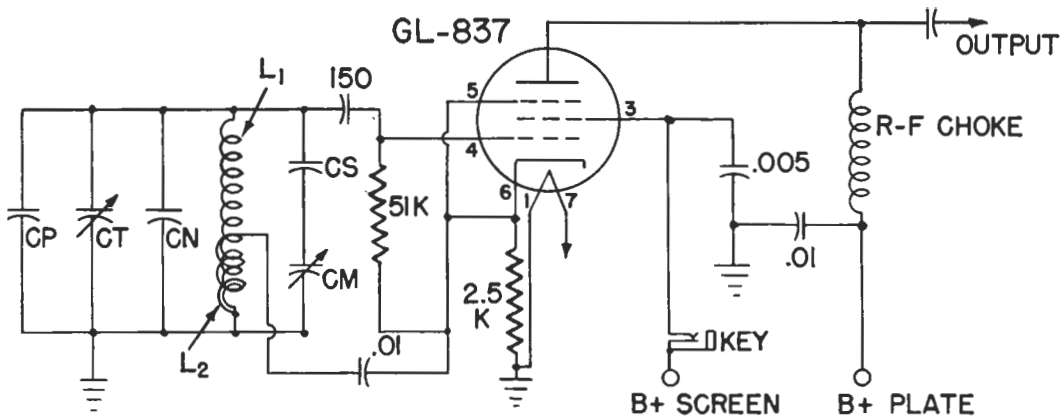

Fig. 2. Circuit Diagram of One-band ECO
Many types of oscillators can be used to generate a radio-frequency signal, and most of these types (ECO, Hartley, tuned-plate grid tickler, tuned-plate tuned grid and negative transconductance) have been used in VFO design. All of them, properly applied, will give a satisfactory VFO. The ECO was chosen because it fits in with more of the requirements which were subsequently found necessary. The schematic diagram, Fig. 2, gives the basic circuit for the electron-coupled oscillator to be used in the Five-band VFO.
Let us assume that you want to calculate the necessary L and C for the circuit in Fig. 2 for a given band—say 1750 to 2000 kilocycles. First, you must select a value of total capacitance (CP+CT+CN+CM+stray). This is not difficult, and as a starter you should use 500–1000 mmf for 160, 80 and 40 meters, and 300–600 mmf for 20 meters. Call it 500 mmf in this case. The next step is to find the capacitance variation necessary to tune across the band. The formula for this is:
It is possible to take the circuit in Fig. 2 and add a tuning condenser and coil in the plate circuit (instead of the r-f choke shown). The coil would be resonant at the frequency generated by the grid circuit. The tuning condenser would allow us to peak the plate circuit, and thus we would be able to drive any other tube desired. This system would work perfectly if our mechanical and electrical design were also perfect. It is much safer not to tune the plate circuit, if frequency stability is desired. In other words, the less we do with the plate circuit, the less the plate circuit is likely to affect the grid circuit.
An untuned plate circuit is shown in Fig. 2. It consists of an r-f choke, which in reality is a broadly resonant coil and condenser combination. The capacitance exists due to the turn-to-turn capacitance in the r-f choke itself. A mica or ceramic condenser couples this stage to the following stage. A plate circuit of this sort has one disadvantage over the tuned circuit, in that less output will be obtained. However, it is undesirable to take a lot of power from an oscillator, so that the untuned plate circuit is ideal in this case.
If temperature compensating condensers are used further adjustment is needed. Referring to Fig. 2, CN and CT are the condensers in question. They are adjusted by listening to the signal on a receiver, and then deliberately adding heat to the oscillator grid circuit. An infra-red heat lamp is ideal for this. If the frequency increases as the temperature rises, add capacity in the negative temperature coefficient condenser (CN) and take out capacity by CT so that the frequency comes back to the same point. Keep this up until the frequency is as constant as possible, due to heat increase or decrease.